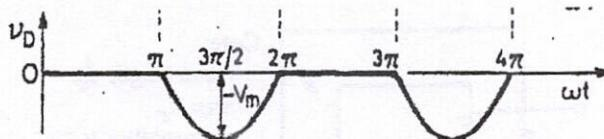

Fig.5
5. (a) Derive the expression of the average value of the voltage waveform as shown in Fig. 5.